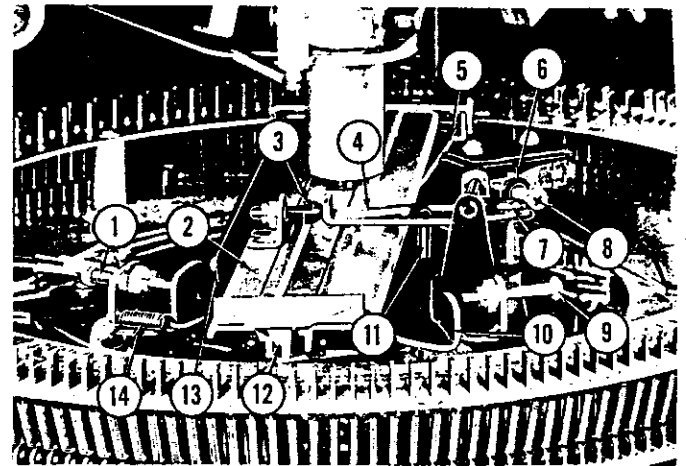

Fig. 84. SELECTOR CRANK AND CARRIAGE SWITCH SETTINGS
(4) Using the method described in (1), (2), and (3), align and set the right hand back stop pawl.
(5) Now check the alignment of the record lift arms with their respective record compartments in twelve or more various indexed positions of the record carrier. At each check point make sure that the correct tooth of the record carrier is firmly against the corresponding back stop pawl. Alignment of the record compartments with the record lift arms must be kept within a tolerance of $1/32$ ".
q. Selector Crank and Carriage Switch Settings. (Fig. 84)
The selector crank (Item 2, Fig. 84) is mounted on the "adjusting bracket and stop nut assembly" (Item 10) which is an integral part of the selector shaft assembly. The selector crank is mounted on pivots which enable it to move a limited amount laterally and vertically. The vertical "at rest" position of the selector crank is determined by adjustments of the stop lever as described in paragraph "m". The vertical actuated position of the selector crank is governed by the cancel lever setting, paragraph "n". The lateral adjustment for the selector crank may be accomplished as follows: